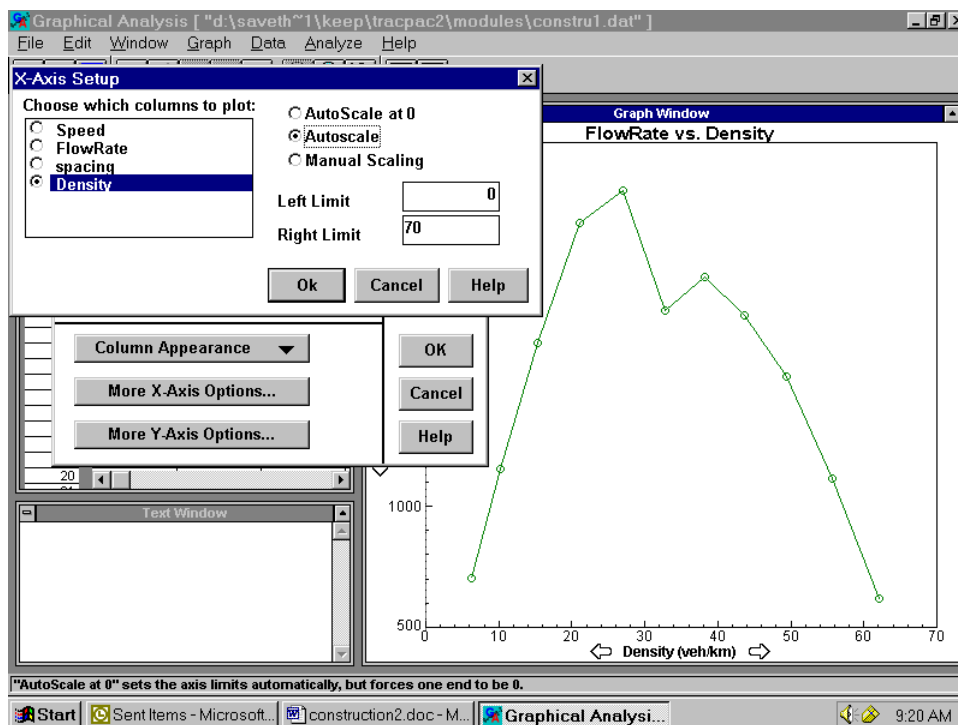

Figure 5: Setting the X-axis in Vernier Graphical Analysis
- Select More X-Axis Options, Check “Density” as shown in Figure 5, and press O.K.